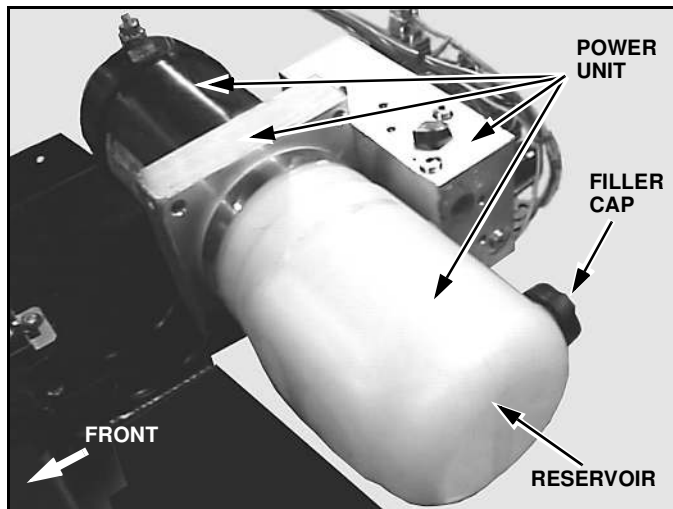
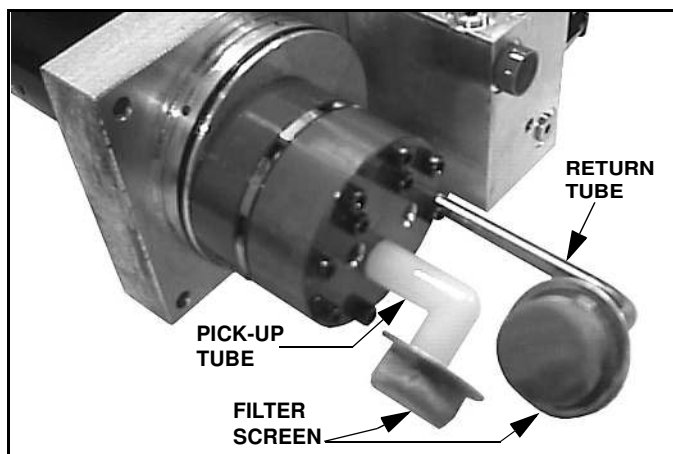

Figure 2-5
Figure 2-6
7. Lift the power unit and rotate it toward the rear of the pump platform. (See Figure 2-5).
8. Loosen the band clamp, which holds the reservoir on the center section. Pull and twist the reservoir until it separates from the center section. Place a container under the power unit to catch spilled oil. Note the position of the reservoir oil pick-up tube and be sure the tube is in the same position when the filter is removed and installed. (See Figure 2-5) and (See Figure 2-6).
10. Pull the filter screens from the oil pick up tube and return tube and clean them with a suitable solvent. Blow-dry the filter from the inside with low-pressure air. (See Figure 2-6).